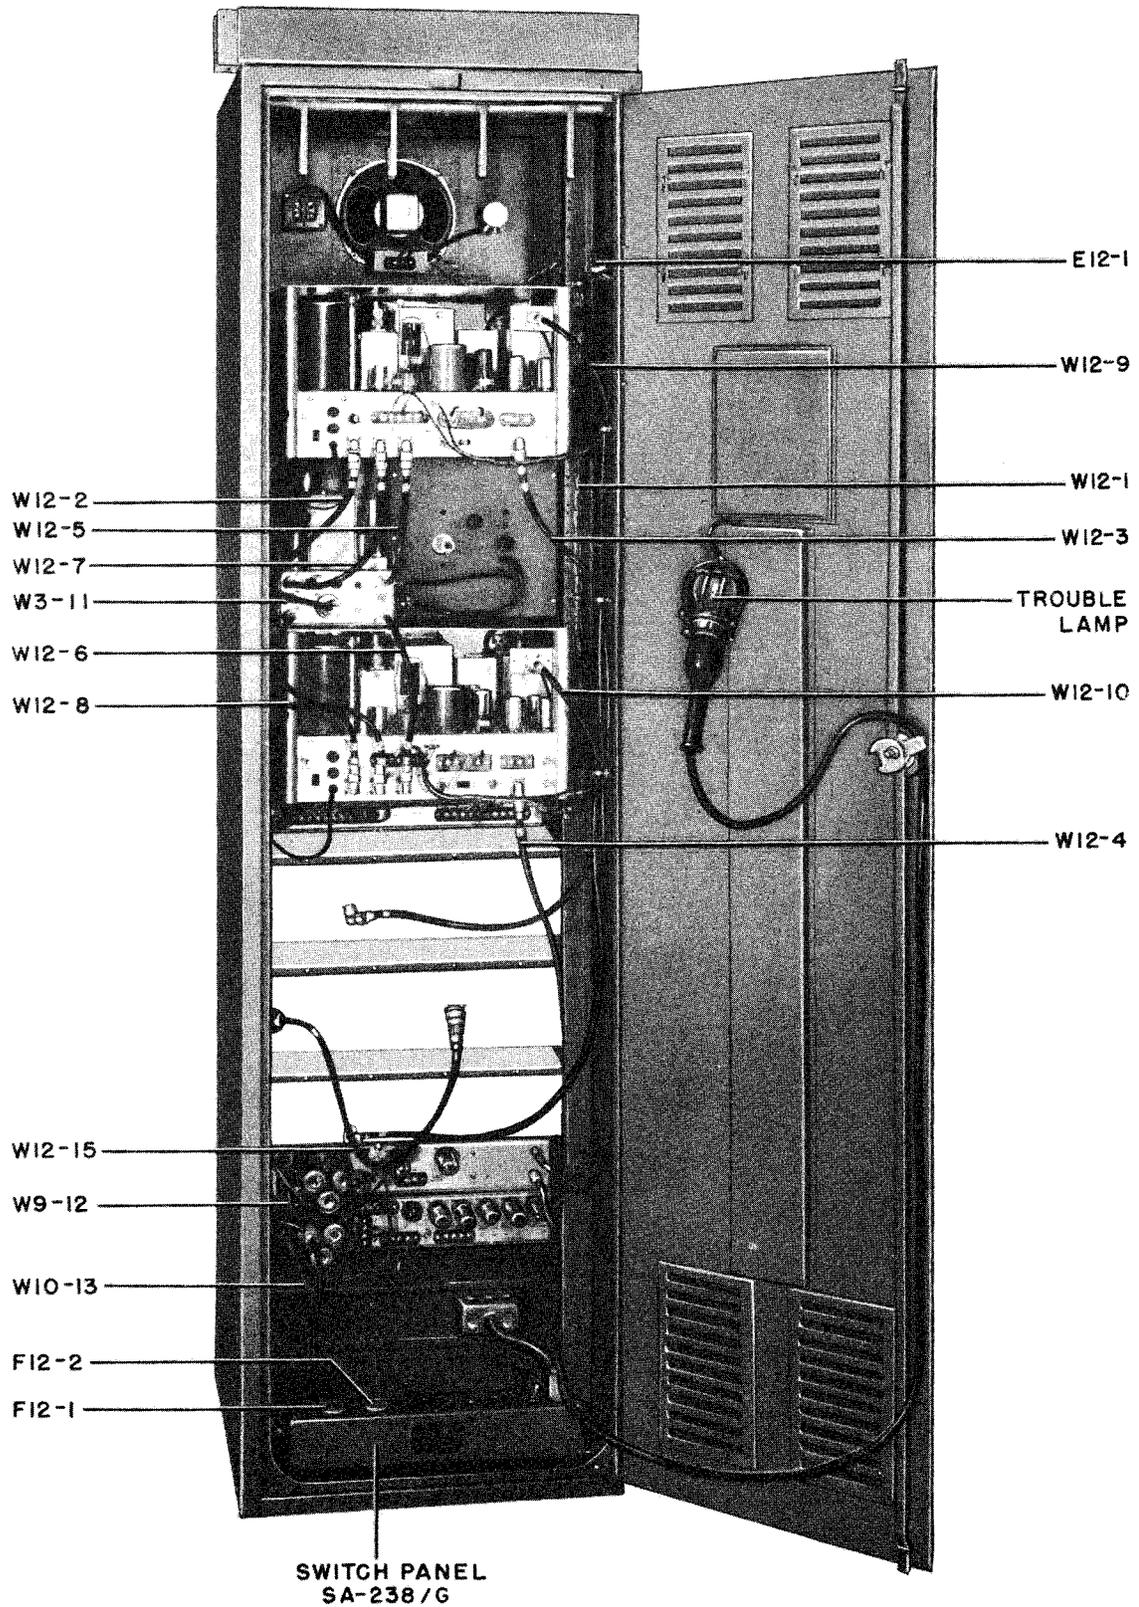

Figure 3-1. Radio Receiving Set AN/FRR-28, Rear View with Door Open
*f.* CONNECTING CABLES.—All power and coaxial cables are labeled so as to indicate the unit connections. Figures 3-1 and 3-15 show the cable connections.
All external signal lines are connected to terminal block E12-1. See figure 3-1. Terminals 1 and 2 on E12-1 correspond to LINE 1 on Communication Patching Panel SB-224/UR, terminals 3 and 4 to LINE 2, terminals 5 and 6 to LINE 3, and terminals 7 and 8 to LINE 4. When unbalanced grounded signal lines are employed, the grounded side of the line must be connected to terminals 1, 3, 5, and 7.
*a.* GENERAL.—After the rack, units, and all cabling have been checked for obvious defects, and have been assembled, the initial adjustments and operational checks may be made. Turn Switch Panel SA-238/G on. (See figure 3-1.)